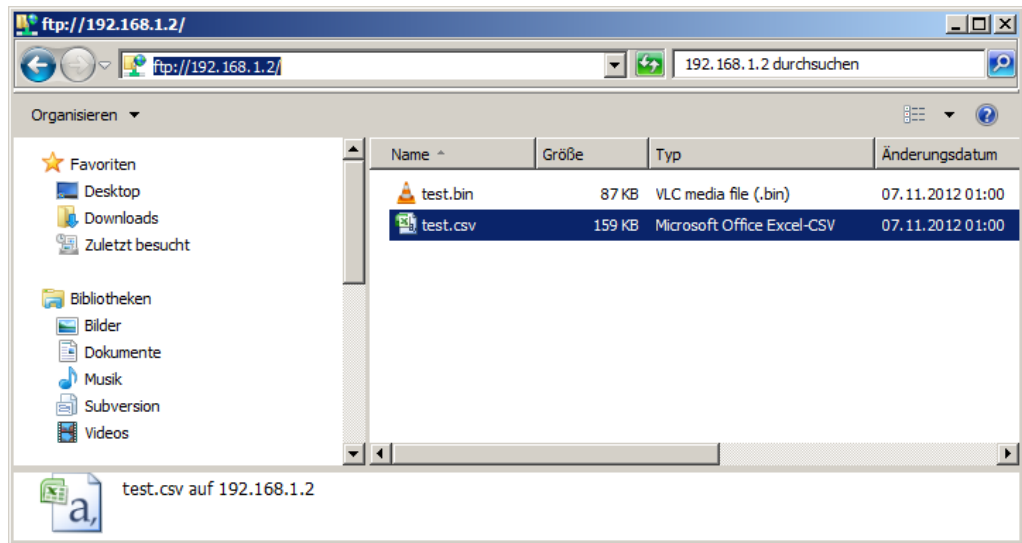

Figure 11: FTP-Server on Windows side
- Open an instance of Windows explorer (shortcut Win+E) and enter the destination address „ftp://192.168.1.2“ (see ▶Figure 11◀ on page 33) to the address line.